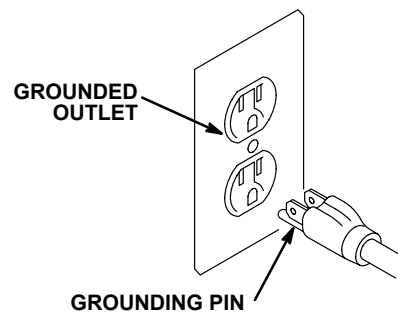

Fig 2
3. Plug the power supply cord into a properly grounded, 120 V electrical outlet. See Fig 2. Do not use an adapter. All extension cords must have three wires. Use the chart below for selecting the appropriate wire gauge for the extension cord.